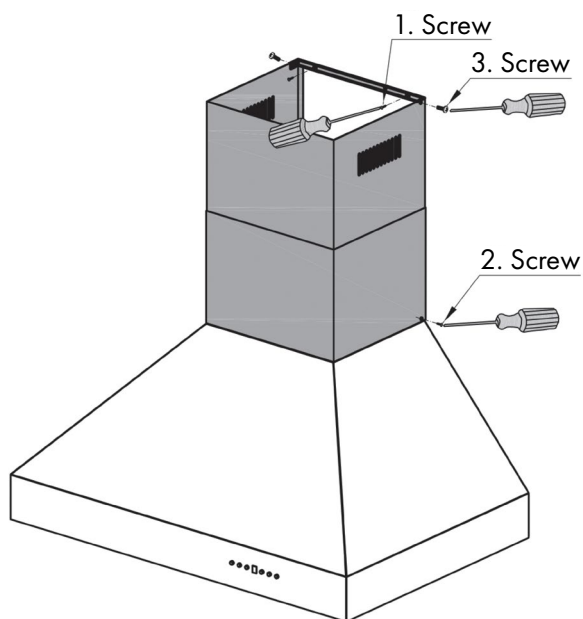

Figure 6
8. Install the two part chimneys on top of the hood. Slide the inside section up until the vertical vent slots are visible, attach top portion to mounting bracket with screws. Secure lower chimney portion to the hood with screws provided. *Figure 6*